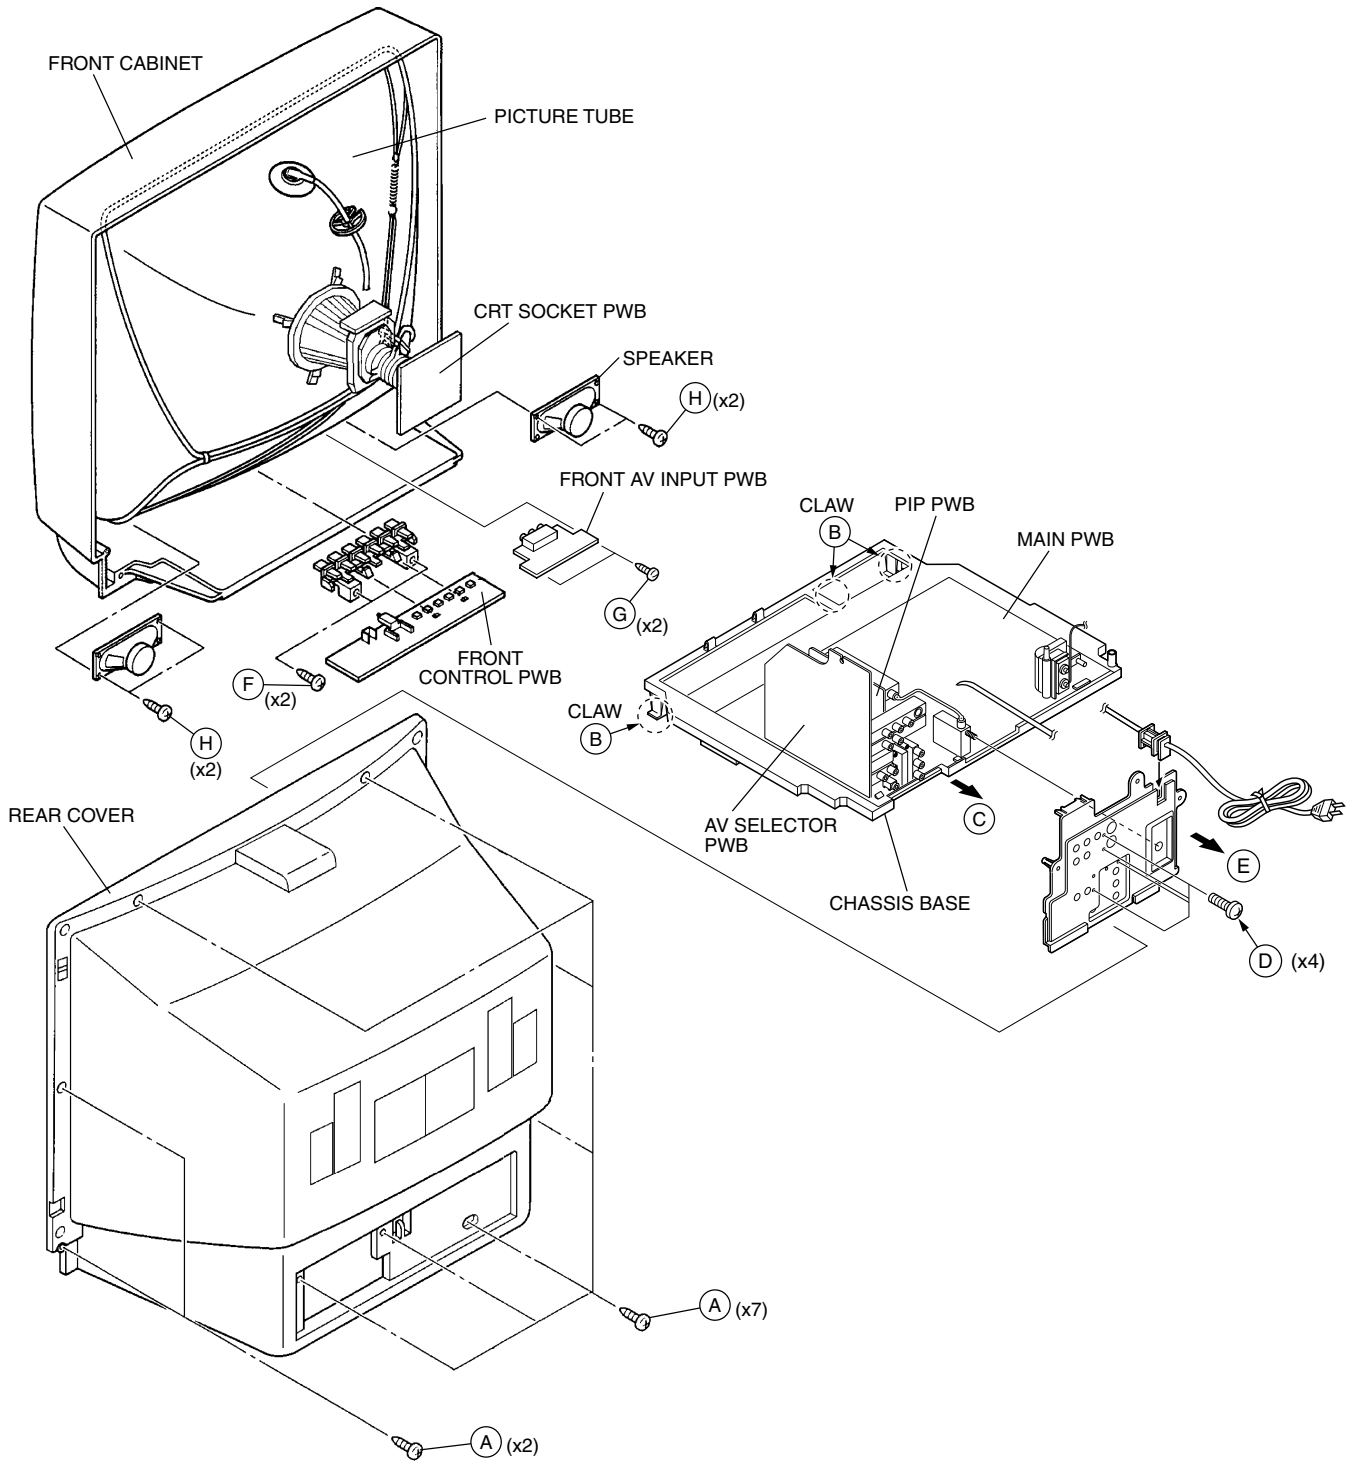

Fig.1
2. Remove the 9 screws marked (A) as shown in Fig.1.
1. Slightly raise the both sides of the chassis by hand and remove the 3 claws marked (B) under the chassis from the front cabinet as shown in Fig.1.
2. Withdraw the chassis backward along the rail in the arrow direction marked (C) as shown in Fig.1.
1. Remove the 4 screws marked (D) as shown in Fig.1.
2. When you pull out the TERMINAL BOARD in the direction of arrow marked (E) as shown in Fig.1, it can be removed.
1. Remove the 2 screws marked (F) and the 2 screws marked (G) as shown in Fig.1.
1. Remove the 2 screws marked (H) as shown in Fig.1.
<p>(4) System constant check and setting</p> <ol style="list-style-type: none"> 1) Press SLEEP TIMER key and, while the indication of "SLEEP TIMER 0 MIN." is being displayed, press DISPLAY key and VIDEO STATUS key on the remote control unit simultaneously. 2) The SERVICE MENU screen of Fig.1 is displayed. 3) While the SERVICE MENU is displayed, again simultaneously press the DISPLAY and VIDEO STATUS keys to display the Fig.2 SYSTEM CONSTANT screen. 4) Refer to the SYSTEM CONSTANT table and check the setting items. Where these differ, select the setting item with the MENU UP/DOWN key and adjust the setting with the MENU LEFT/RIGHT keys. (The letters of the selected item are displayed in yellow.) 5) After adjusting, release the MENU LEFT/RIGHT key to store the setting value. 6) Press the EXIT key twice to return the normal screen. 	 <p>The SERVICE MENU screen shows a list of settings: PICTURE, SOUND, THEATER, OTHERS, PIP, LOW LIGHT, HIGH LIGHT, RF AFC1, RF AFC2, TU2 VCO, and I2C BUS CTRL. At the bottom, there are navigation controls: SELECT BY (up/down arrows), OPERATE BY (left/right arrows), and EXIT BY (EXIT key icon).</p>
<p>(7) SERVICE MENU setting Verify what to set in the SERVICE MENU, and set whatever is necessary.(Fig.1) Refer to the SERVICE ADJUSTMENT for setting.</p>